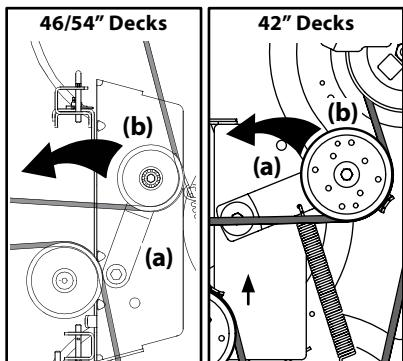
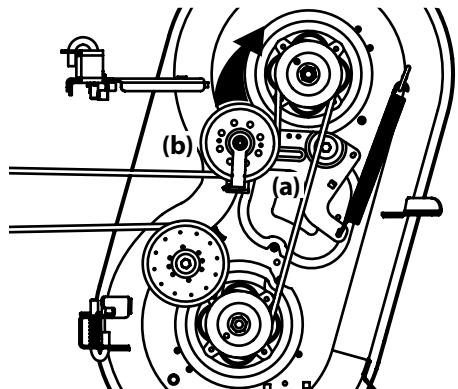

Figure 4-15
Figure 4-16
- Working from the middle of the tractor, pivot the idler bracket (a) and movable idler pulley (b) rearward on 42/46/54" deck and forward on 34" decks just far enough to lift the belt up and over the spindle pulley. See Figure 4-15 for 42/46/54" decks and Figure 4-16 for 34" decks.